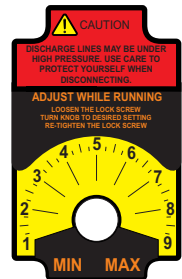

FIG. 5.1
**5.1 Adjusting the Pump Output- Standard models (fig. 5.1)** - The C-1500N flow rate can be adjusted within a range of 5% -100% of maximum output (20:1 turndown ration) by means of a mechanical, cam type mechanism. The mechanism adjusts the pump's stroke length to an infinite number of settings within the flow range. Because the pump's output is reduced by increasing the pressure of the system being injected into, the amount of suction lift, and the viscosity of the fluid being injected, the pump must be over-sized to allow for these factors. Sizing the pump to allow adjustment within the midrange is preferred to maintain accuracy. Consult the factory for individual pump model output curve data.